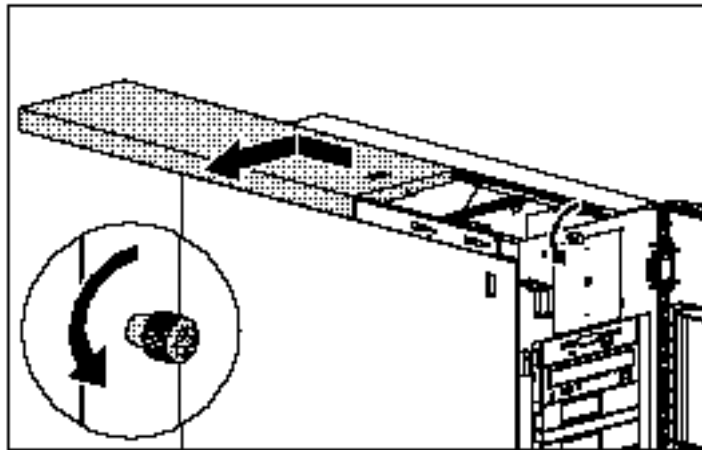

Figure 3-2. Sliding the Top Access Panel
5. Slide the Top Access Panel toward the rear of the unit about 0.5 inch (1.5 cm), and then slide the panel to the side of the server. See Figure 3-2.